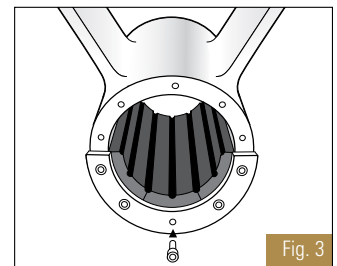

Fig. 3
4. **Install the lower compression head half** and tighten bolts lightly. (Fig. 3)